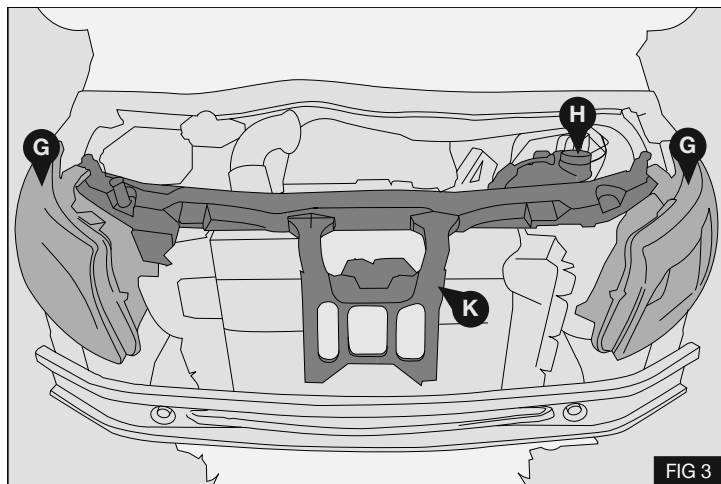

FIG 3
5. Remove both headlights (G) - Fig 3
6. Un-bolt the expansion tank (H) and disconnect all wiring from the slam panel (K) - Fig 3
7. Disconnect the bonnet release cable and remove slam panel (K) - Fig 3